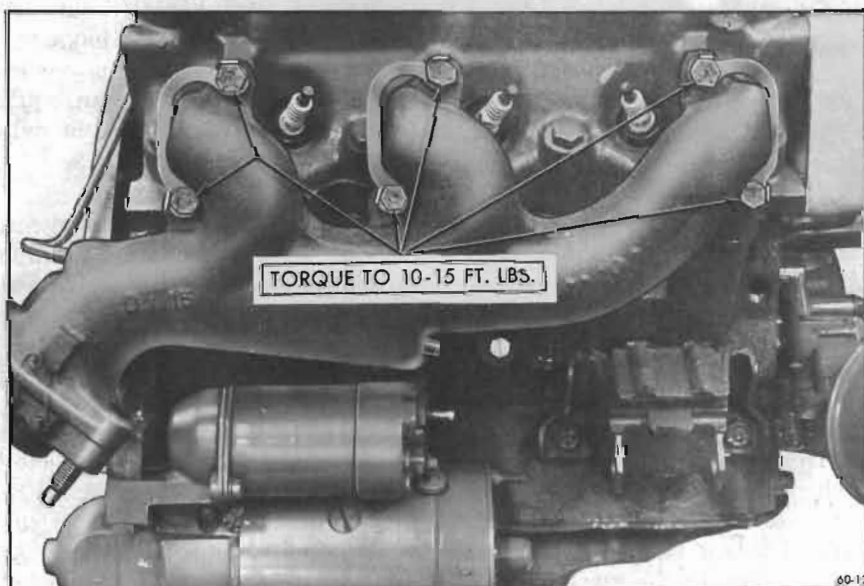

Figure 60-12—Exhaust Manifold Installation
3. Assemble exhaust manifold to cylinder head with bolts and locking plates as shown in Figure 60-12. Torque bolts to 10-15 ft. lb.